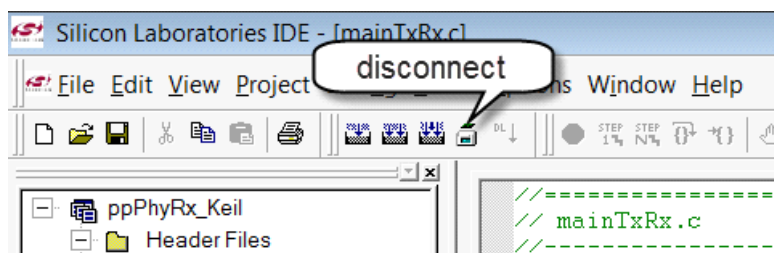

Figure 16. Disconnect IDE
7. Disconnect the IDE as shown in Figure 16.